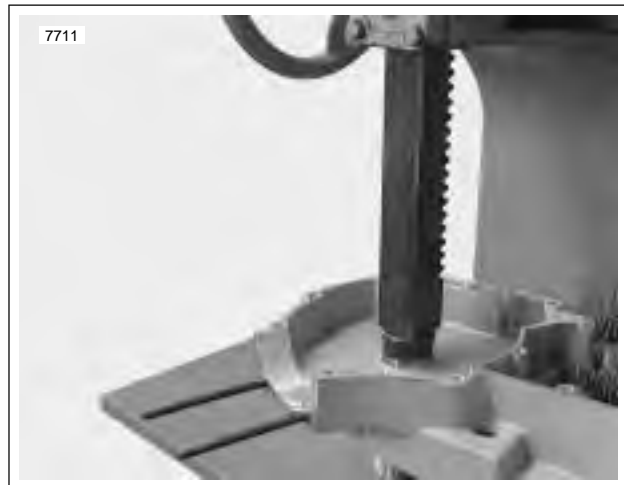

Figure 3-136. Right Outer Bearing Race Installation
5. See Figure 3-136. Insert "SPORTSTER" end of installer base into outboard side of left crankcase half bearing bore until base contacts outboard surface of installed left outer race.
7. See Figure 3-136. Insert shaft of installer plug through right outer race and into installer base. Press race into bore until firmly seated against retaining ring.